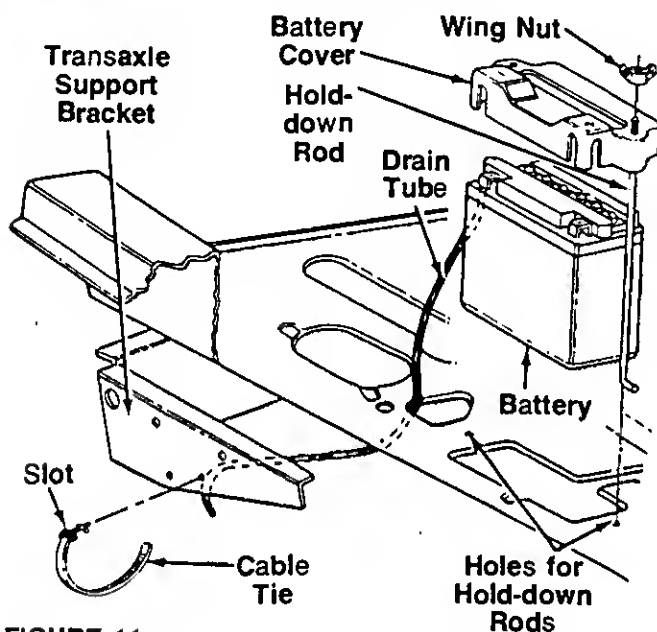

FIGURE 11.
5. Secure the battery in place with battery cover and hold-down rods. Secure with two wing nuts. See figure 11.
6. Route the clear plastic drain tube down through the hole in the frame, next to the engine drain plug, shown in figure 11.